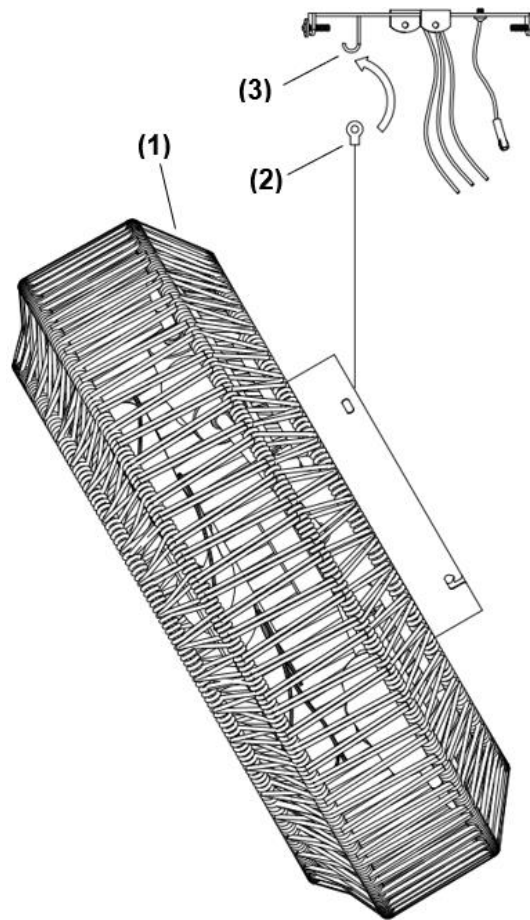

Fig. 4
- Lift the fan assembly (1) up to the mounting bracket. Hang the safety cable (2) from the fan assembly onto the J-hook (3) of the mounting bracket. (Fig.4)